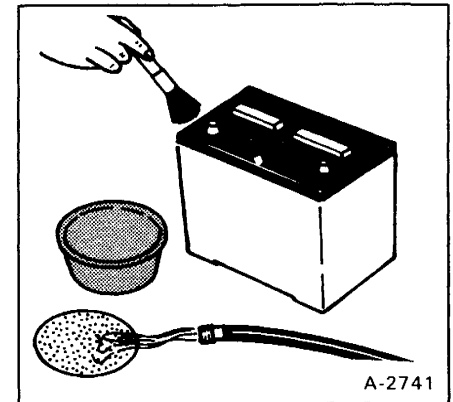

Fig. 64 Cleaning Battery
1. Check to see that the battery cables are clean and tight. Remove any acid or corrosion from the battery and cables with a baking soda and water solution (Fig. 64). Cover the terminals with Clark Battery Saver to prevent corrosion. Install the covers on the terminals.